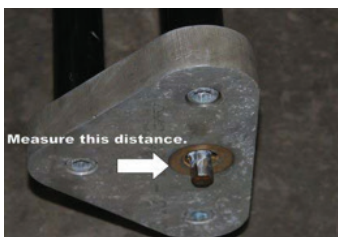

Figure 40
4.0.13) Record the distance the saw mandrel shaft extends past the P3. This measurement will be used after tapping to ensure the cutter is fully retracted into the housing (see Figure 40).